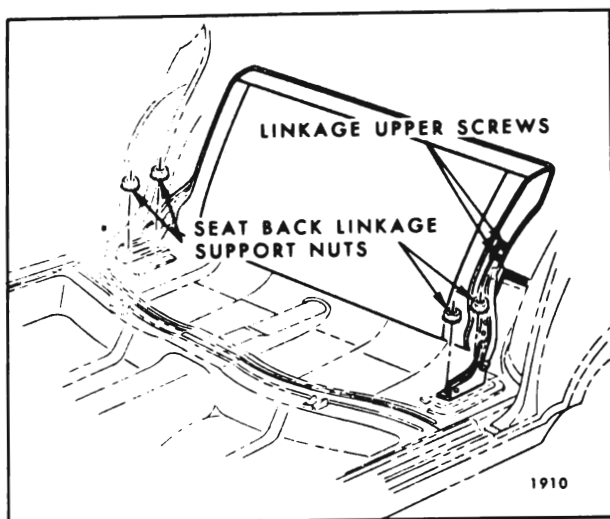
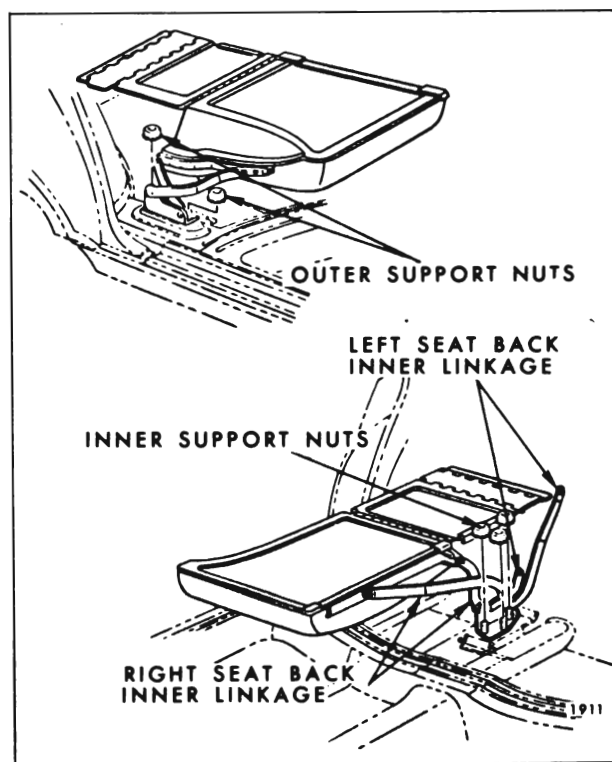

Fig. 15-56—Folding Second Seat Back Supports
Fig. 15-57—Folding Second Seat Back Supports and
3. Mark position of folding second seat back linkage supports on floor pan. Remove nuts from both sides of seat back securing linkage supports to floor pan (See Figure 15-56), full width seat (Fig. 15-57) for split seat.
5. Remove nuts securing linkage support to floor pan (See Fig. 15-56); then carefully remove linkage assembly from seat back and floor pan.
3. Remove nuts securing inner linkage assembly to floor pan (See Fig. 15-57).